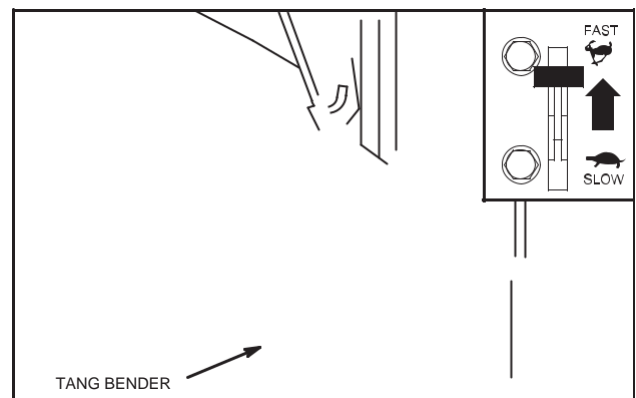

Fig. 28 - Adjust Top No Load Speed
- a. Bend tang to obtain correct RPM, Fig. 28.